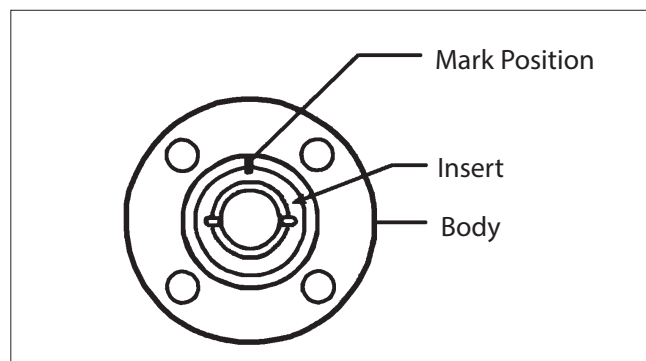

Figure 1.
8. Screw the insert (2) into the body until it is fully seated and then mark its position as shown in **Figure 1**. Counting the number of turns, remove the insert.